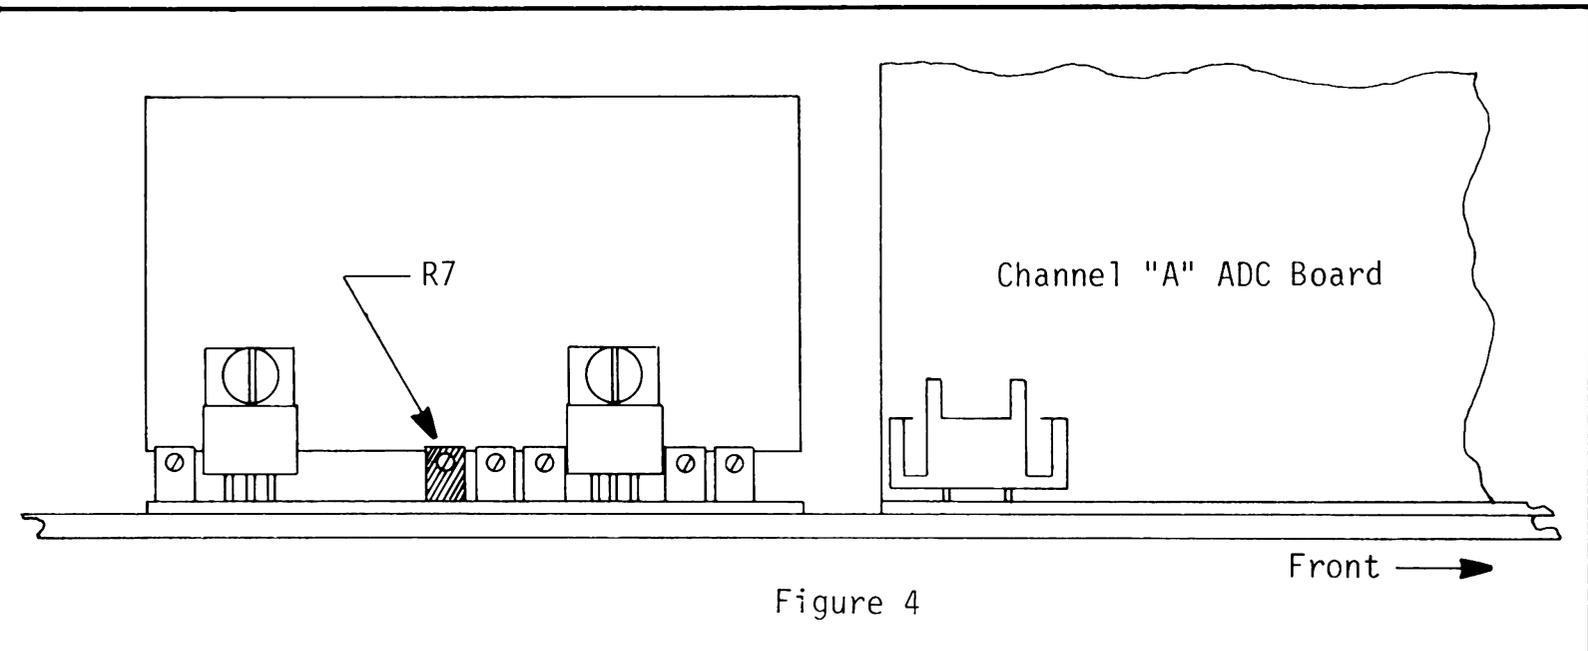

Figure 4
- a. Adjust R7 for +5 VDC  $\pm$  1%. (See Figure 4)